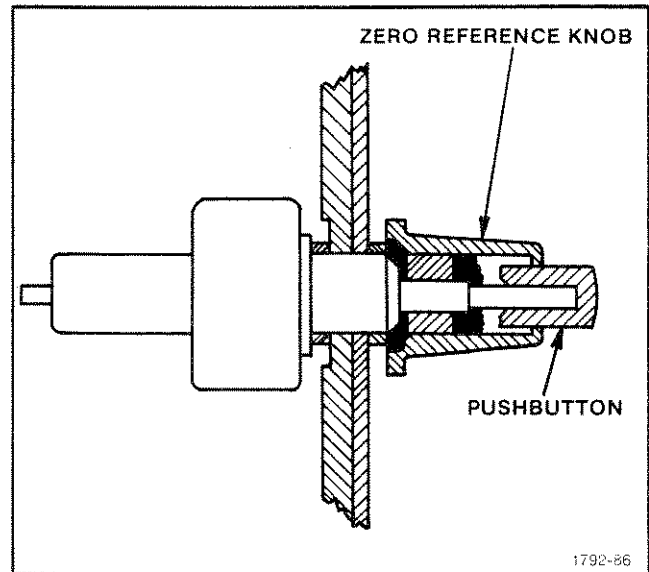

Fig. 5-33. Installation of knob on ZERO REFERENCE control.
- 2. Assemble the knob and pushbutton on the control shafts as shown in Fig. 5-33.